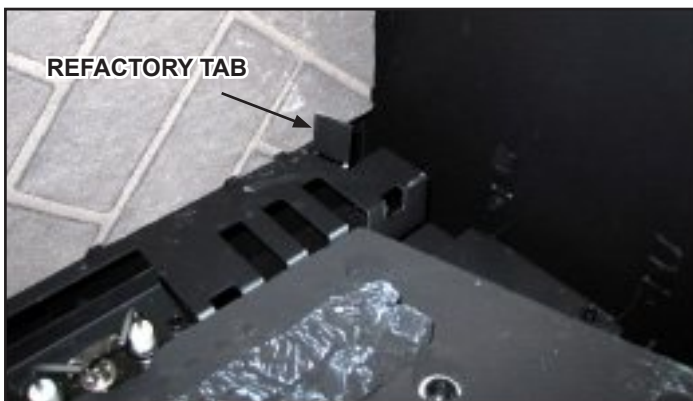

Figure 10.7 Place Right Side Refractory
2. Place right side panel by inserting the front (tall edge) into the front firebox corner and then press the narrow end up to the refractory tab. See Figure 10.7